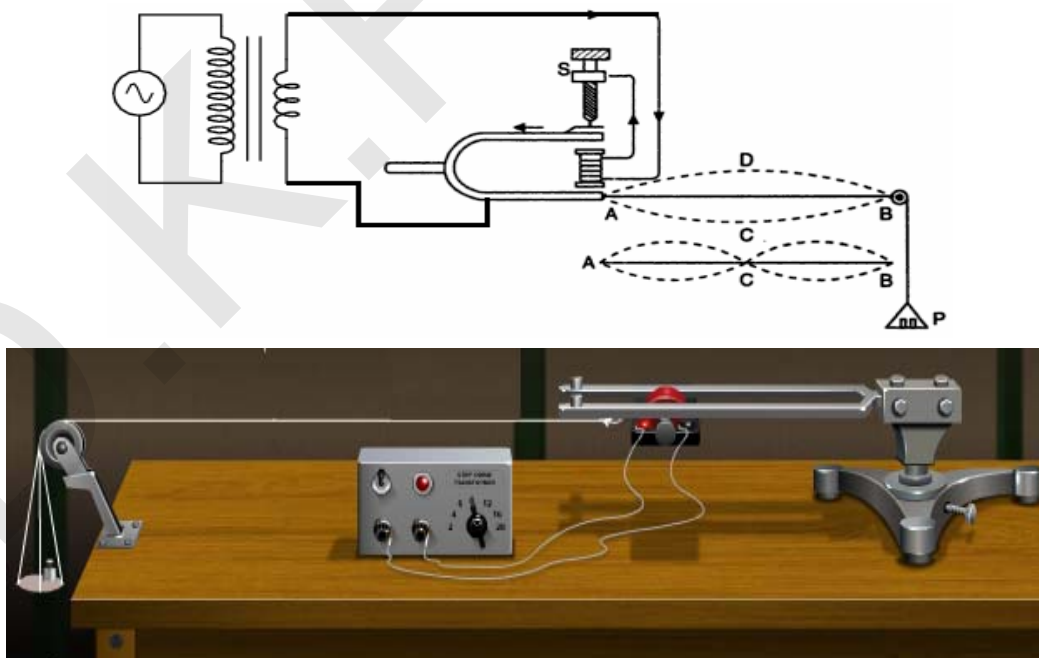

Fig.2: Arrangement for transverse mode of vibration
3. Arrange the electrically maintained tuning fork in transverse situation (Fig.2) (i.e. arrange in such a way that length of string is parallel to the prong of tuning fork) and load a mass of 5gm on its pan. Now rotate the screw S (i.e. excite the tuning fork), so that vibration in tuning fork gets started.